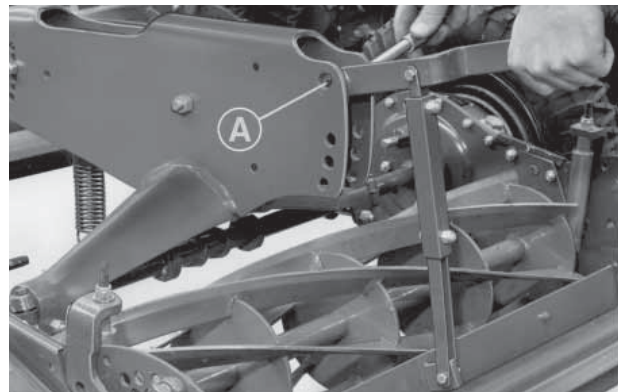

Fig 26
2. (Fig. 26). When trailed gang mowers are moved along paths or roads the rear rolls must be raised clear of the ground by locking the lifting lever in the top hole (A) of the unit frame.